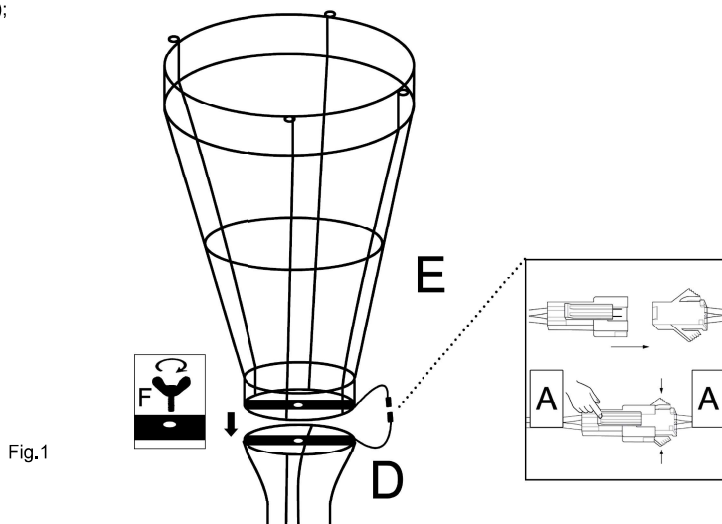

Fig.1
2. Connect the base(E) and the lower pole(D) by securing the bolt (F), Connect the light string. (see Fig.1);